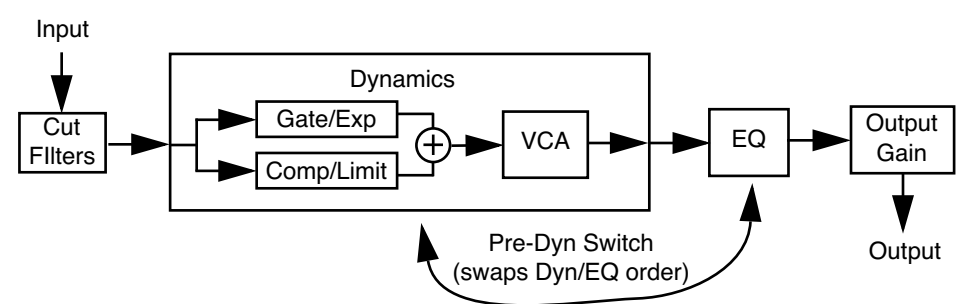

Figure 103. Simplified signal flow within UAD Neve 88RS
**Signal Flow** The output of the cut filters is fed to the input of the dynamics or EQ section (dependent upon the Pre-Dyn switch). Understanding this signal flow will help you obtain a more predictable result (see Figure 103 below).
The settings of the gate do not affect operation of the compressor, and vice versa. The same sidechain signal (EQ'd or not, depending upon Pre EQ switch) is sent to both the gate and compressor. The gains for both the gate and compressor are computed based on that same signal, then both the gate and compressor gains are applied in the same place, by a single gain-reduction VCA (see Figure 103 above).